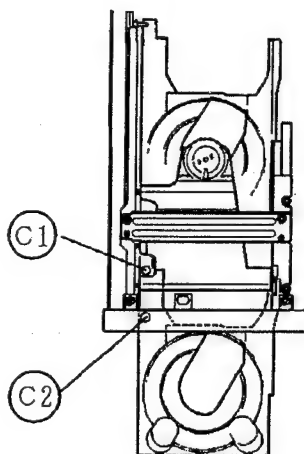

Figure 9
2. Remove screws C1 and C2 holding Tray 1. (See Figure 9.)